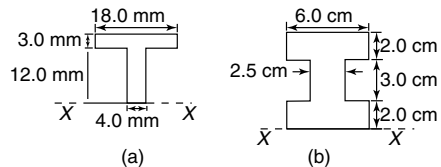

Figure 7.24
9. For the sections shown in Figure 7.24, find the second moment of area and the radius of gyration about axis XX